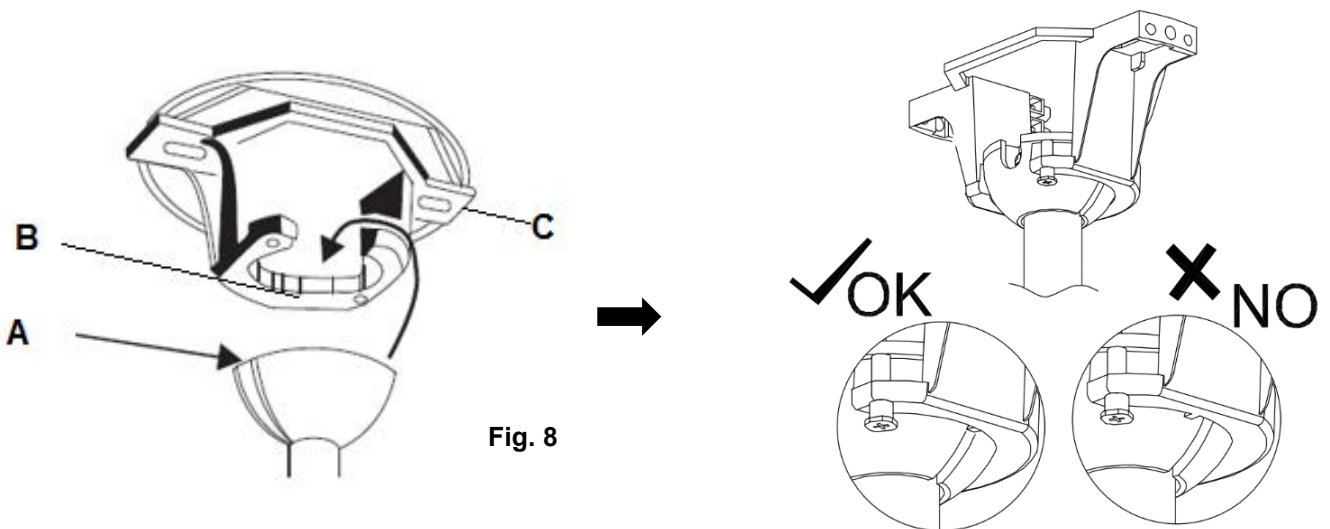

Fig. 8
Lift the fan assembly onto the mounting bracket. Ensure the key slot (A) of the hanger ball is positioned on the key pin (B) of the mounting bracket (C) to prevent the fan from rotating when in operation. (Fig. 8)